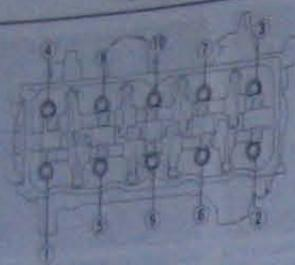

Fig 2.14 Cylinder head bolt slacking sequence (Sec 22)
- 8 Slacken the cylinder head bolts half a turn at a time in the order shown in Fig. 2.14. When all the tension has been relieved, remove the bolts and washers.